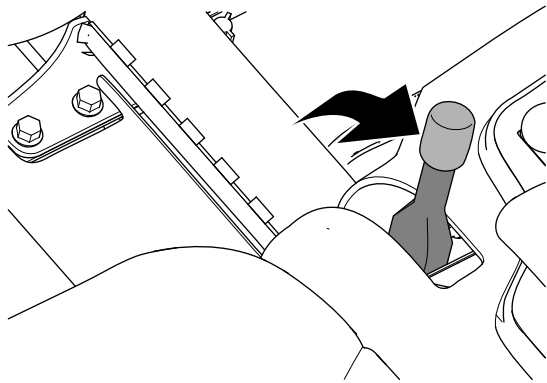

Figure 30
2. Engage the parking brake (Figure 30).